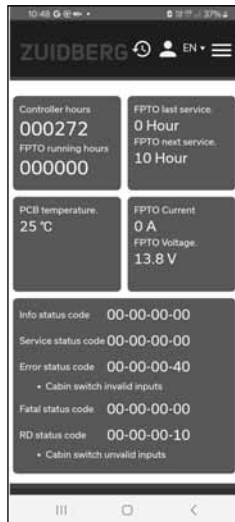

Figure 10
- Go to the dashboard (see Fig.10).